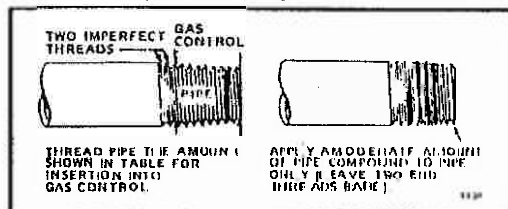

Fig. 3—Use moderate amount of pipe compound.
4. Apply a moderate amount of good quality pipe compound (DO NOT use Teflon tape) to pipe only, leaving two end threads bare. On LP installations, use compound resistant to LP gas. Refer to Fig. 3.